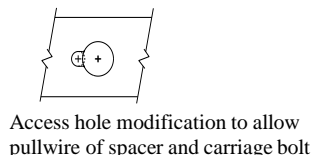

Figure 2
①	Qty. (1)	U-bolt 3/8-16"	⑦	Qty. (1)	Conical washer 1/2"
②	Qty. (2)	Flat washer 3/8"	⑧	Qty. (1)	Hex nut 1/2-13
③	Qty. (2)	Lock washer 3/8"	⑨	Qty. (2)	Carriage bolt 7/16-14 X 1-3/4" GR5
④	Qty. (2)	Hex nut 3/8-16	⑩	Qty. (2)	Spacer 1/4" X 1" X 3"
⑤	Qty. (1)	Bolts 1/2-13 X 1.75 GR5	⑪	Qty. (2)	Conical washer 7/16"
⑥	Qty. (1)	Spacer 1/4" X 1" X 1-1/2"	⑫	Qty. (2)	Hex nut 7/16-14
- Remove the (2) plastic rivets that fasten the fascia tabs to the trunk pan. Note: Remove the center of the rivet with a screwdriver and remove remaining piece. Rivets to be reinstalled. Carefully push fascia toward the impact bar and out of the way.
- Enlarge the forward access hole or drill 1" access hole in **bottom** of passenger side frame rail between the attachment holes for bolts and spacers. See enlarge method Figure 2. Paint any exposed metal